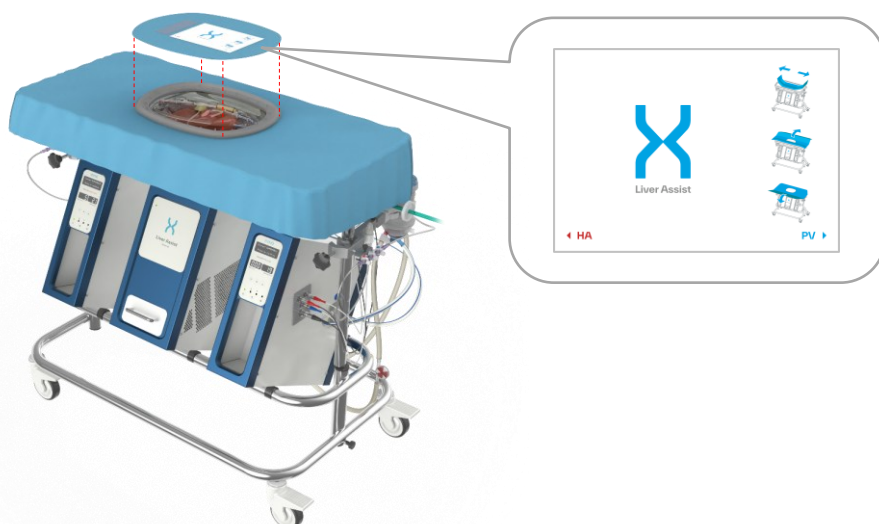

Figure 29: Placement of additional sterile drape.
- Place the additional sterile drape over the reservoir and ensure the orientation is correct as identified by the HA and PV marking on each side on the label (Figure 29)